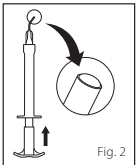

Fig.2
- Any possible air from the dispensing tip is removed by gently pushing forward the syringe plunger with the tip pointing upwards until material reaches the opening of the tip (Fig. 2).